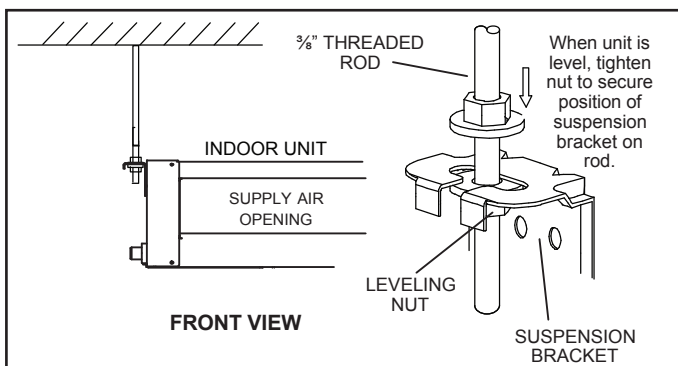

Figure 3. Suspension Hardware
3. Slide one nut and one washer onto each threaded rod. Use electrical tape to keep the washer from falling off. Position the nuts slightly above the final resting place of the four suspension brackets. See figure 3.